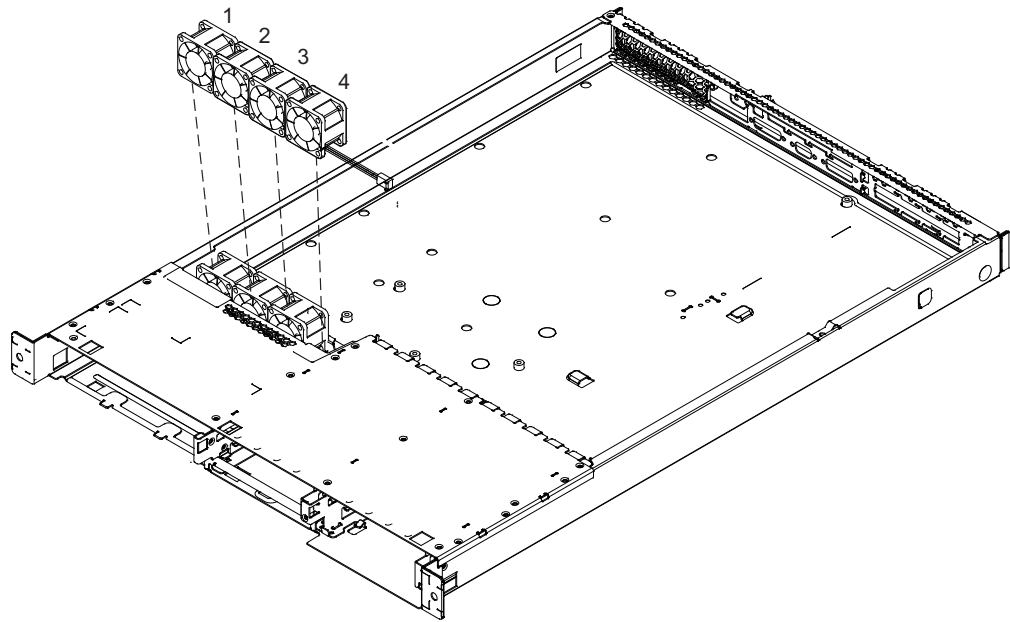

Figure 47. Removing a microprocessor fan
5. The fans are numbered from one to four, from left to right. See Figure 47. Lift the fan upward out of the retaining clip.